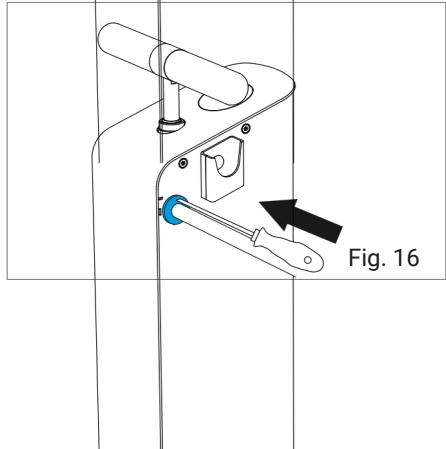

Fig. 16
- 4 Finally, insert the sealing grommet into the hole by applying slight pressure to the inner rubber edge and pressing the rubber into the hole so that the inner ring locks into place. You can also use the screwdriver for this (Fig. 16).